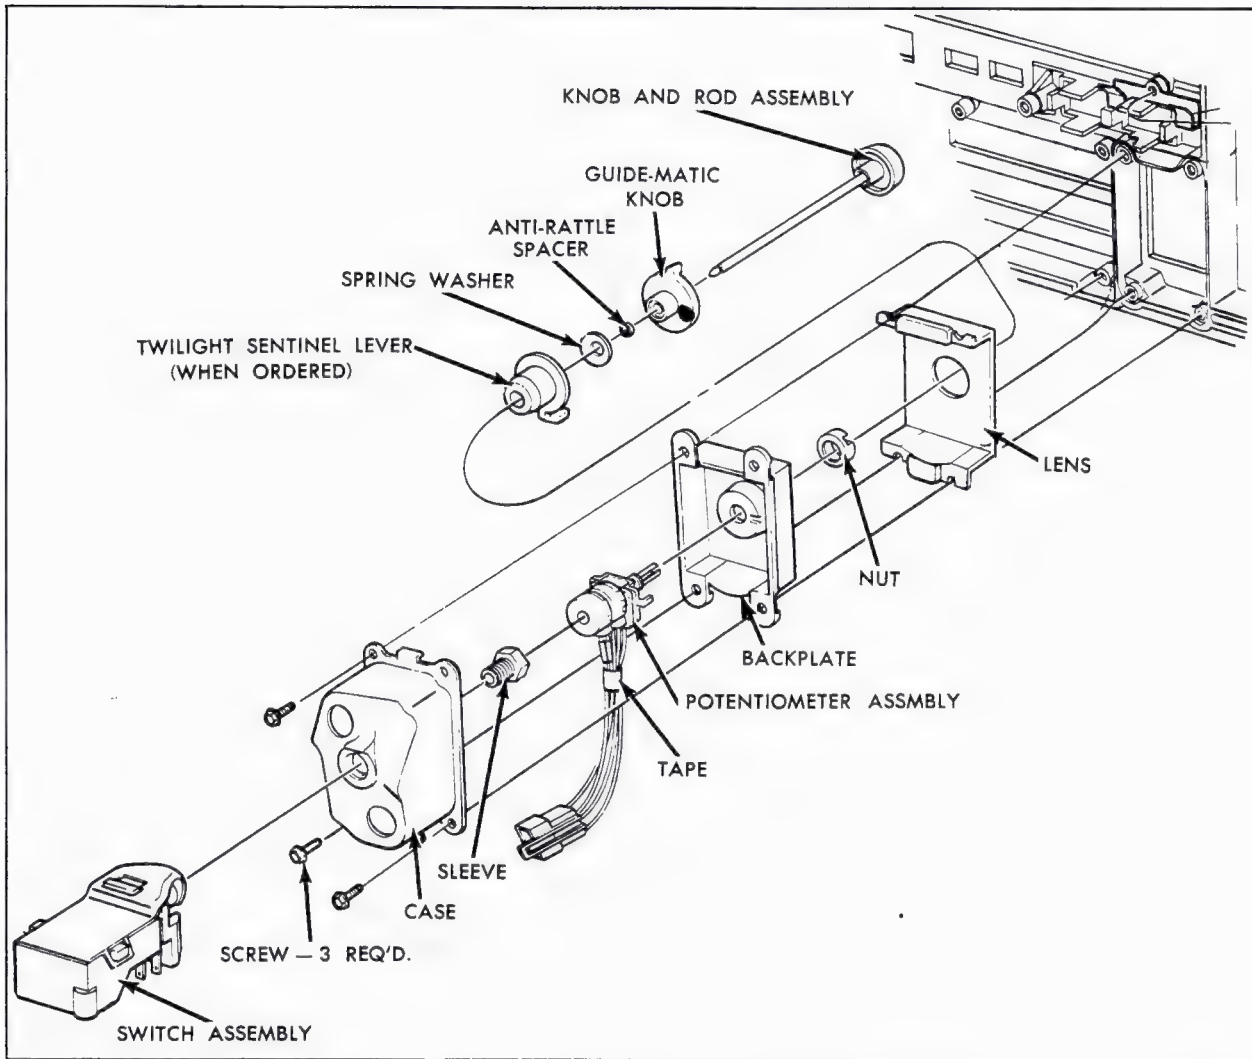

Fig. 12-42 Light Switch - (Disassembled)
58. Headlight Switch (Fig. 12-42)